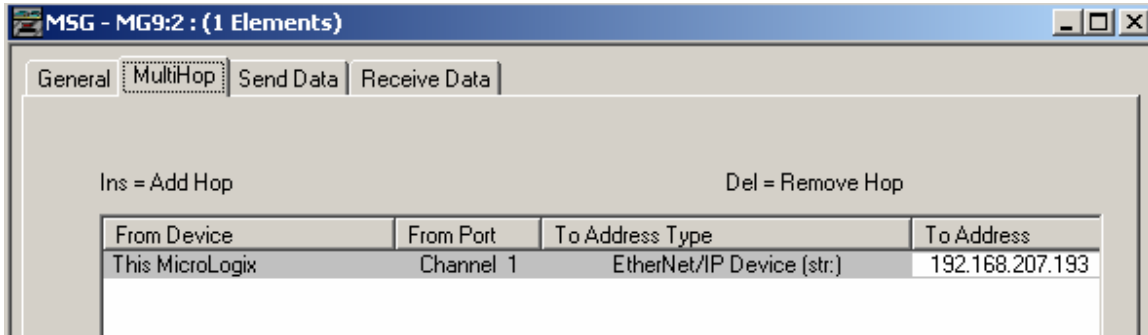

Figure 15: Configuring MultiHop for send instruction
- i. Click on the MultiHop tab and enter the IP address of the MP2300Siec controller to which data will be sent if data is being written or from where data will be received if it is a receive instruction. (Figure 15)